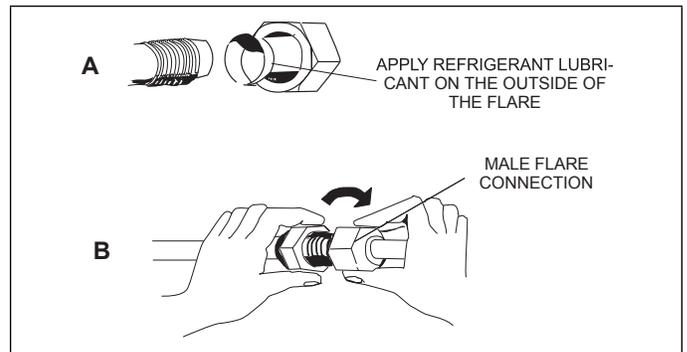

Figure 26. Making Connections (Male to Female Connection)
7. Align the threaded connections with the flared refrigerant lines. Tighten the flare nuts lightly at first to obtain a smooth match as illustrated in "Figure 26. Making Connections (Male to Female Connection)".